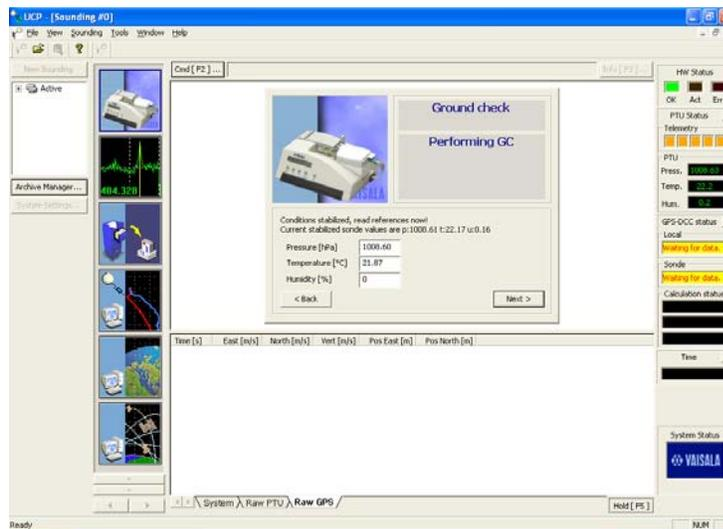

Figure 12
34. Wait until you see the next screen (Figure 12). The spaces for **Pressure**, **Temperature**, and **Humidity** will be blank in the middle window. Do the following: